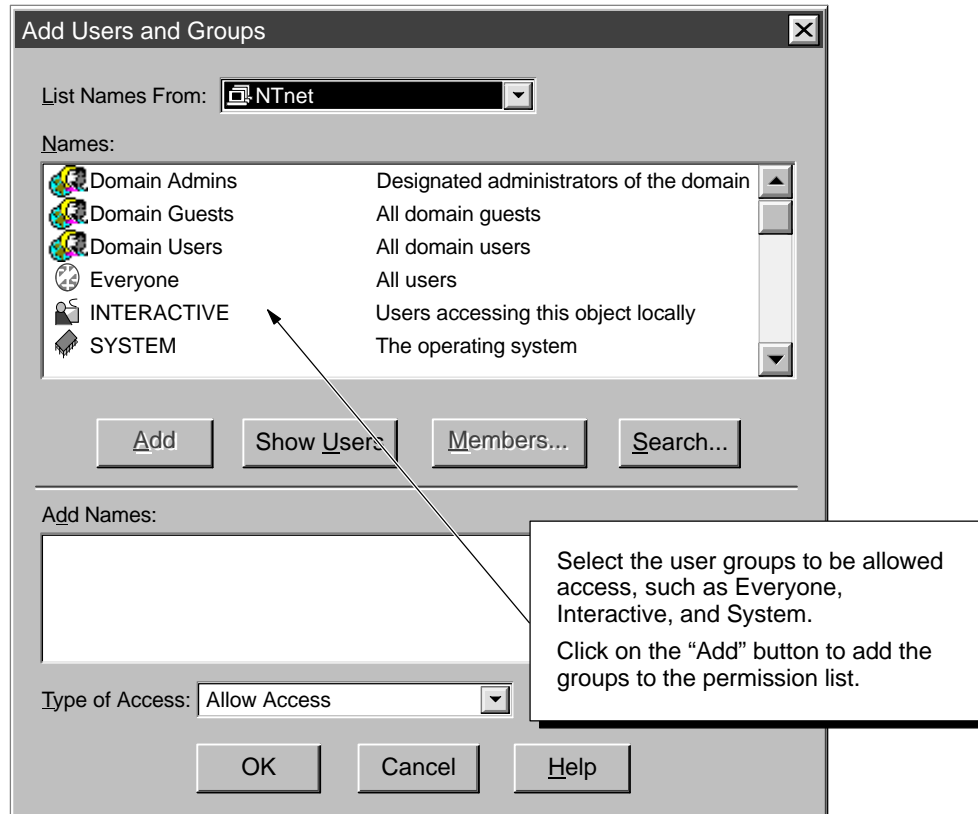

Figure E-18 Changing the Launch Permissions for Users or Groups
2. Click on the “Add” button to display the “Add Users and Groups” dialog box and change the security settings for access to the server. See Figure E-18.
3. In the “Names” field of the “Add users and Groups” dialog box (Figure E-18), select “Everyone” (or the appropriate subset of users) and click on the “Add” button.